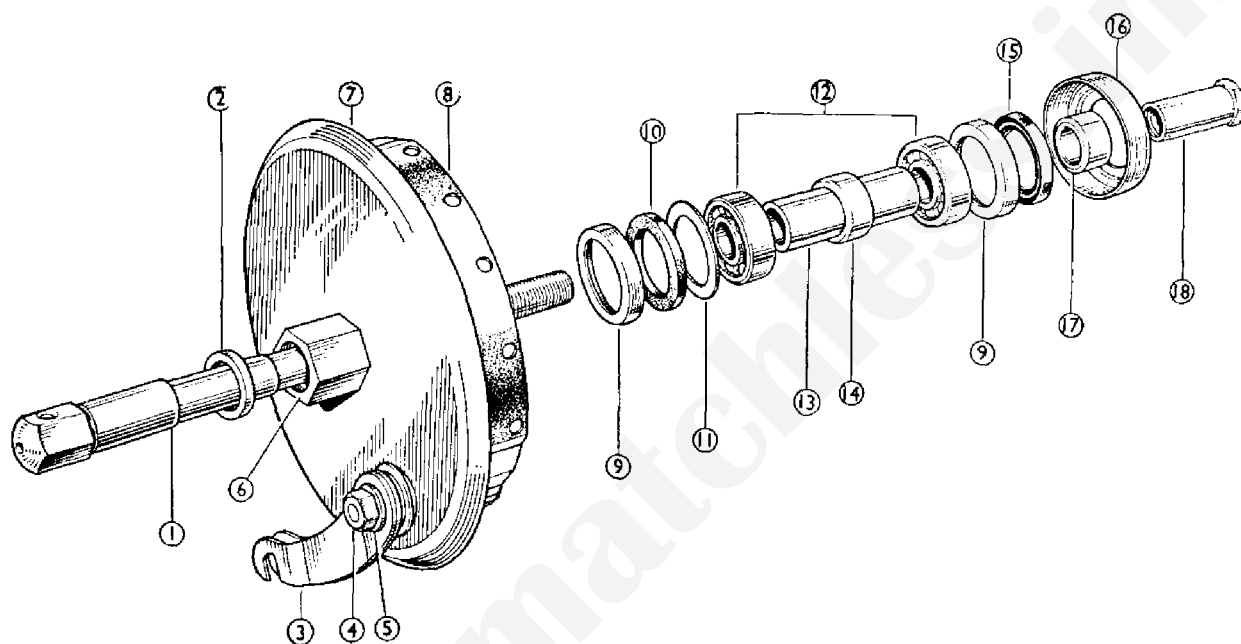

FIG. 87
**Front wheel (1959 Model)** (Fig. 87). Remove the brake cover plate assembled, then knock out the wheel spindle which will eject the bearing (18), the oil seal (16) and cup (14).